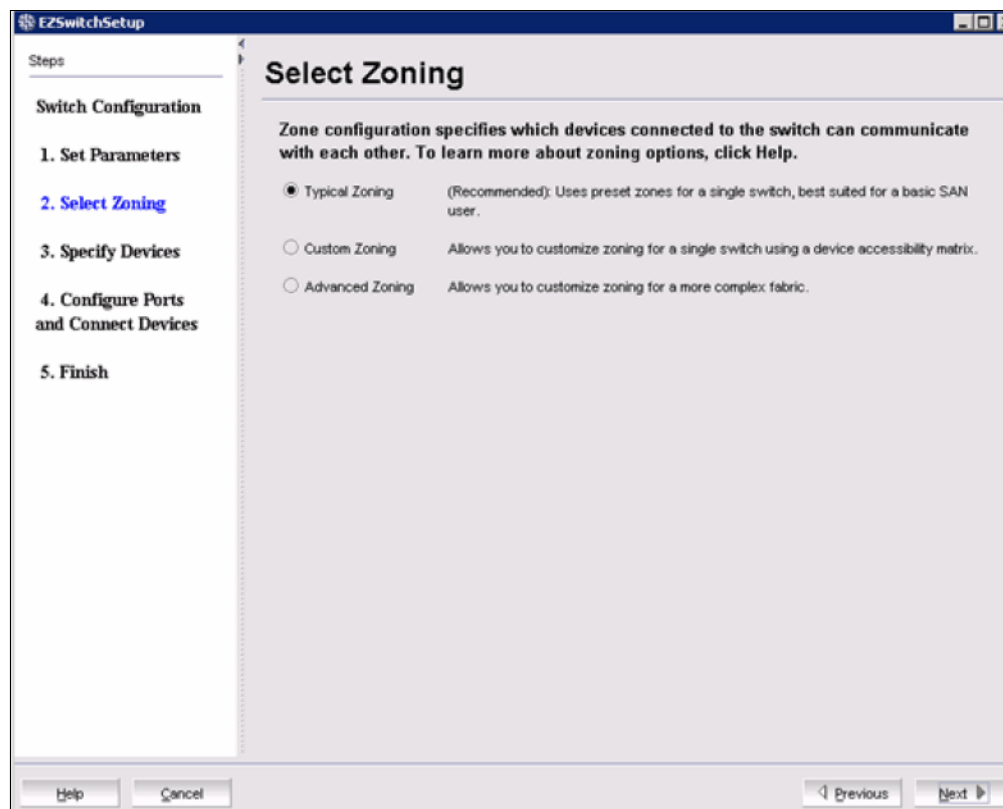

Figure 4-11 Select Zoning
Figure 4-11 shows the Select Zoning window.
1. In the Select Zoning window (Figure 4-11), select **Typical Zoning**.